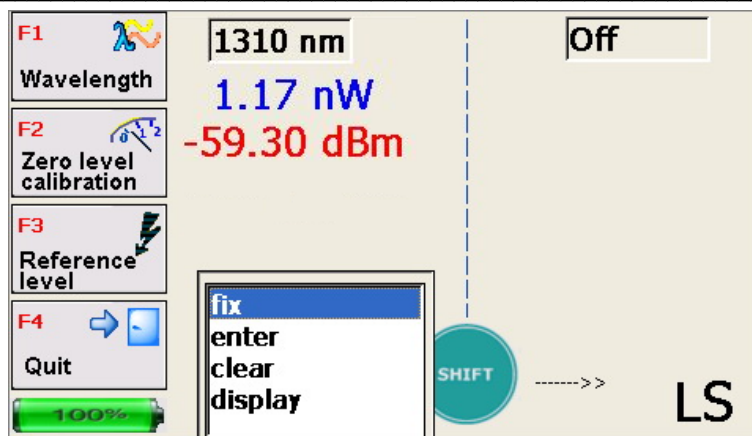

Figure 8.2
to enter basic levels by pressing the button **F3** →  - the menu shown in Figure 8.2 will appear.
If you choose the line “**Fix**” in the window shown in **Figure 8.2**, the current power level at this wave length will be fixed as the basic.
Choose the line “**Enter**” in the window shown in **Figure 8.2** will result in activation of the window shown in **Figure 8.3** where you can enter the required value of the basic level.
If the line “**Show**” is chosen in the window shown in **Figure 8.2**, the level value saved for this wavelength in the KI 6700's memory will be shown as the basic.
8.2.8 In order to escape from the mode of relative power levels measurement choose the line “Clear” in the window shown in **Figure 8.2**.